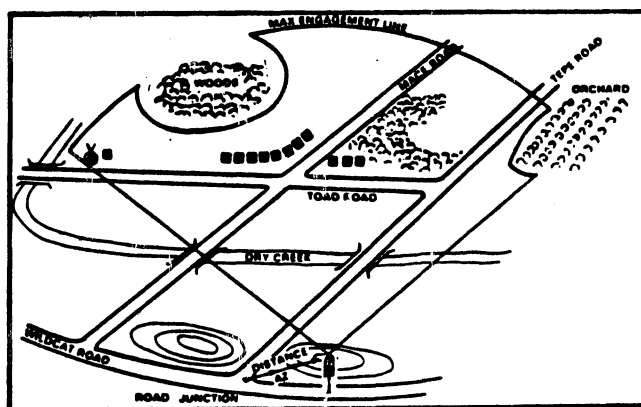

Fig 6-5. Sector of fire/ maximum engagement line.
3. Now, draw in your sector. This is an enclosed line that outlines your sector of fire. The maximum engagement line is a segment of the sector line and indicates the maximum range at which targets may be engaged (fig 6-5).